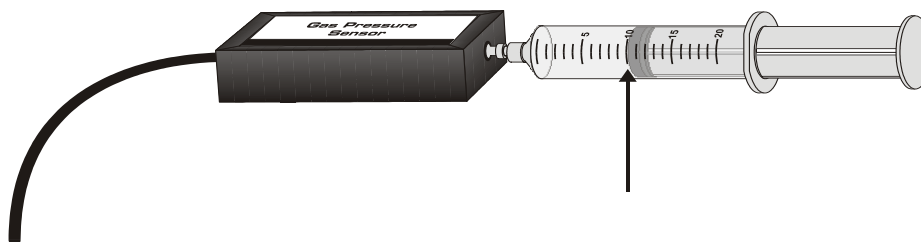

Figure 1
This experiment will show the relationship between the pressure and volume of a confined gas. The gas we use will be air, and it will be confined in a syringe connected to a Pressure Sensor (see Figure 1). When the volume of the syringe is changed by moving the piston, a change occurs in the pressure exerted by the confined gas. This pressure change will be monitored using a Pressure Sensor. It is assumed that temperature will be constant, as is the quantity of gas, throughout the experiment. Pressure and volume data pairs will be collected during this experiment and then analyzed. From the data and graph, you should be able to determine what kind of mathematical relationship exists between the pressure and volume of the confined gas. Historically, this relationship was first established by Robert Boyle in 1662 and has since been known as Boyle's law.
- b. With the 20-mL syringe disconnected from the Pressure Sensor, move the piston of the syringe until the front edge of the inside black ring (indicated by the arrow in Figure 1) is positioned at the 10.0 mL mark.